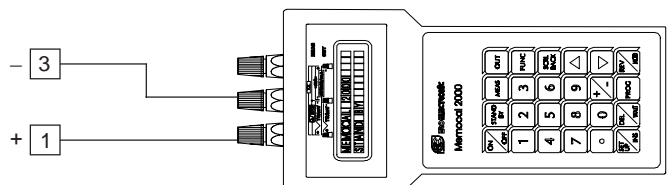

Fig.5
- b) Connect the instrument under test to the calibrator as shown in Fig. 5.
- a) Set the calibrator to 60.000 mV (see Fig. 5).